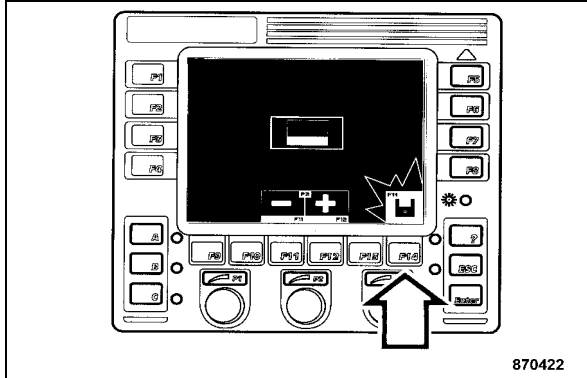

Fig. 88
- Press "F14" (Fig. 88) to save the selection. The symbol "Save" lights green for a moment to confirm.